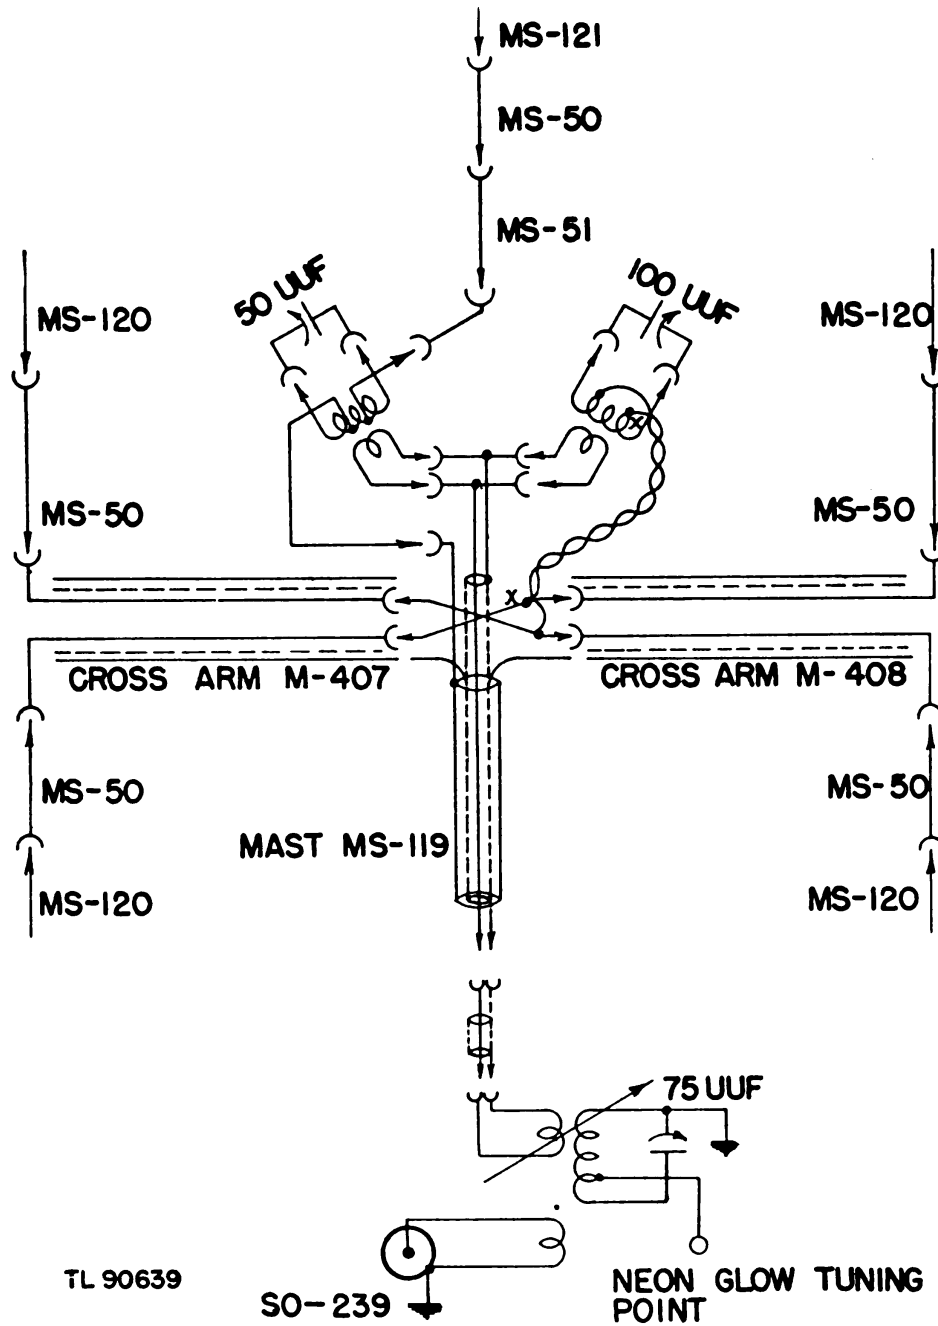

Figure 35. Schematic diagram of antenna array.
b. The output of the transmitter of Radio Set SCR-508-(*&*) or Radio Set SCR-608-(*&*) is carried through a coaxial r-f line into an antenna-coupler or resonance tuner. A stationary link terminates the transmitter output and provides an inductive r-f source coupled to a stationary secondary winding. This antenna coupler, when tuned to resonance, provides ample r-f energy to energize a loosely coupled rotating link. The link, mounted by a connector, is fixed in axis and carries the r-f energy through the beacon rotating stub axle. The stub axle is engaged by the mast which has a continuation of the r-f coaxial line. The center portion of the mast acts as a physical support for the array, and the insulated portion also radiates as a part of the vertical dipole output (fig. 35).
39. RESONANCE TUNER BC-1305. (fig. 35). The electrical components of the resonance tuner consists of a 2-inch phenolic form, mounted by an 8-32 screw and nut. Oversized mounting holes allow centering the rotating link in the form. The form has two windings. Two turns of No. 18 copper wire are used as an inductive termination load for Radio Set SCR-508-($\&$) or SCR-608-($\&$). This inductive termination winding is wound close to a 4-turn No. 16 copper wire secondary, tuned by a 75-u uf variable capacitor. The secondary provides a concentrated r-f radiating tank circuit for the 2-turn rotating link which rotates within the form. A connection at a high-voltage point of the secondary winding terminates in a screw head in a circular piece of polystyrene insulation and provides a point of contact for neon glow lamp tuning (fig. 14).